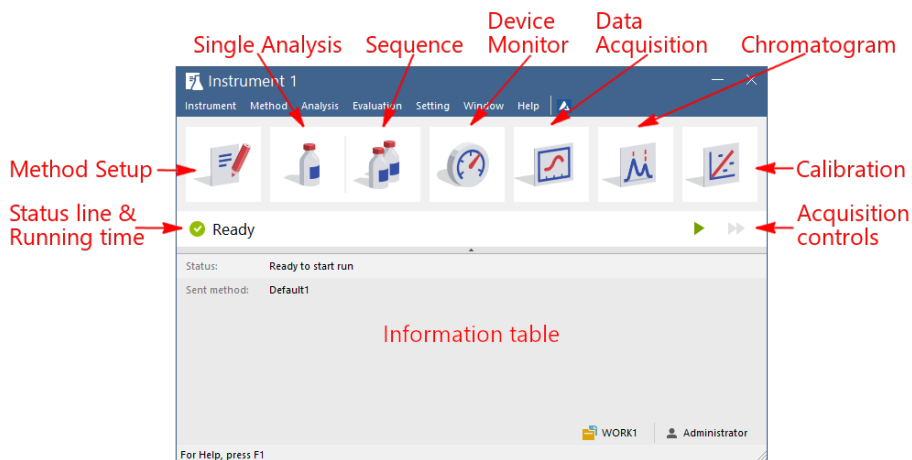
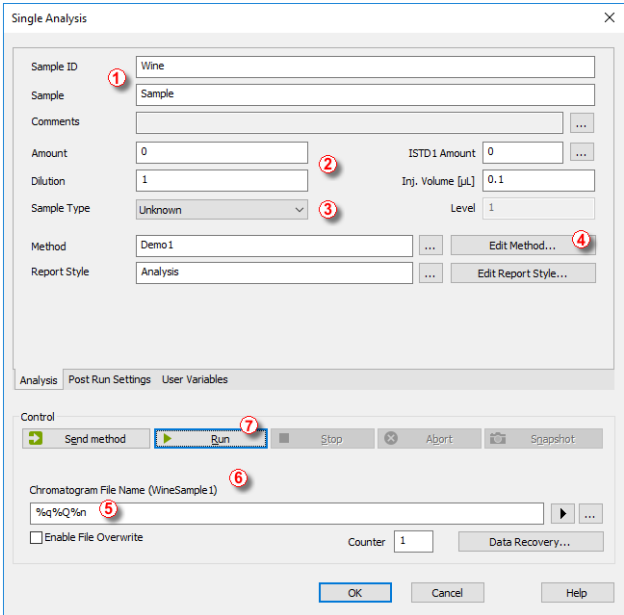

Fig 11: Instrument window
Fig 12: Single Analysis dialog
- The **Instrument** window will open; **Fig 11** on pg 18. shows the most important icons in the **Instrument** window. During the tour, we will review all windows opened by these icons.
- The fields in the *Analysis* section contain information about the sample. You may set the values in the fields as shown in **Fig 12** on pg 19., as typical analysis settings. Once this is selected as described, your instrument window will be the same as shown in **Fig 11** on pg 18.
- *Sample ID* and *Sample* fields ① are only informational, whereas the data in *Amount*, *Dilution*, *ISTD Amount* and *Inj. Volume* fields ② are used for further calculations.
- Choosing the *Standard* from the *Sample Type* combobox and entering a value in the *Level* field ③ would mark this sample as the calibration standard and save the chromatogram into the CALIB subdirectory.
- The measurement of the sample will be performed according to the actual modification of the template method opened in the **Instrument** window. The *Edit Method...* button ④ serves to change the parameters of the actual template method. Click the button to open the **Method Setup** dialog and check the setting of the *Autostop* parameter (*Autostop* is enabled and *Run Time* set to 7.5 minutes). Return to the **Single Analysis** dialog by pressing OK button.
- **Chromatogram File Name** ⑤ field is used for entering the file name of the resulting chromatograms. It is possible to use plain text together with variables adding the time, date, sample name or other parameters to create a unique chromatogram name. The resulting name can be seen just above the field ⑥ in parentheses.
- Run the analysis by clicking the **Run** button ⑦. The **Single Analysis** dialog will close now. If you open it again, you will see three more buttons (**Stop**, **Abort**, **Snapshot**) that will allow you to stop or abort the analysis or take snapshots (see the chapter "**Data Acquisition window**" on pg 20.).
- In the **Instrument** window look at the **Status line** (see **Fig 11** on pg 18.). The acquisition is now signaled by the **RUNNING** state and the actual run time shown there.
- To see the data acquisition in process and possibly control it, click the **Data Acquisition**  icon (see **Fig 11** on pg 18.) to enter the **Data Acquisition** window.
- Depending on your station's configuration, one or more signals may be displayed. The number of detectors (signals) and their names can be seen in the upper right corner of the graph ①.